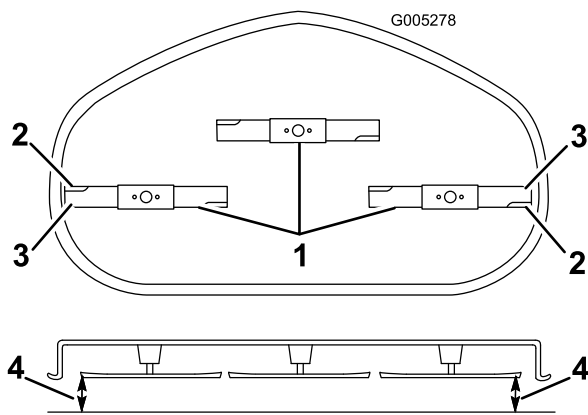

Figure 40
5. Carefully rotate the blade(s) side to side (Figure 40). If both measurements are not within 3/16 inch (5 mm), an adjustment is required; continue with this procedure.
6. Measure between the outside cutting edges and the flat surface (Figure 40). If both measurements are not within 3/16 inch (5 mm), an adjustment is required; continue with this procedure.